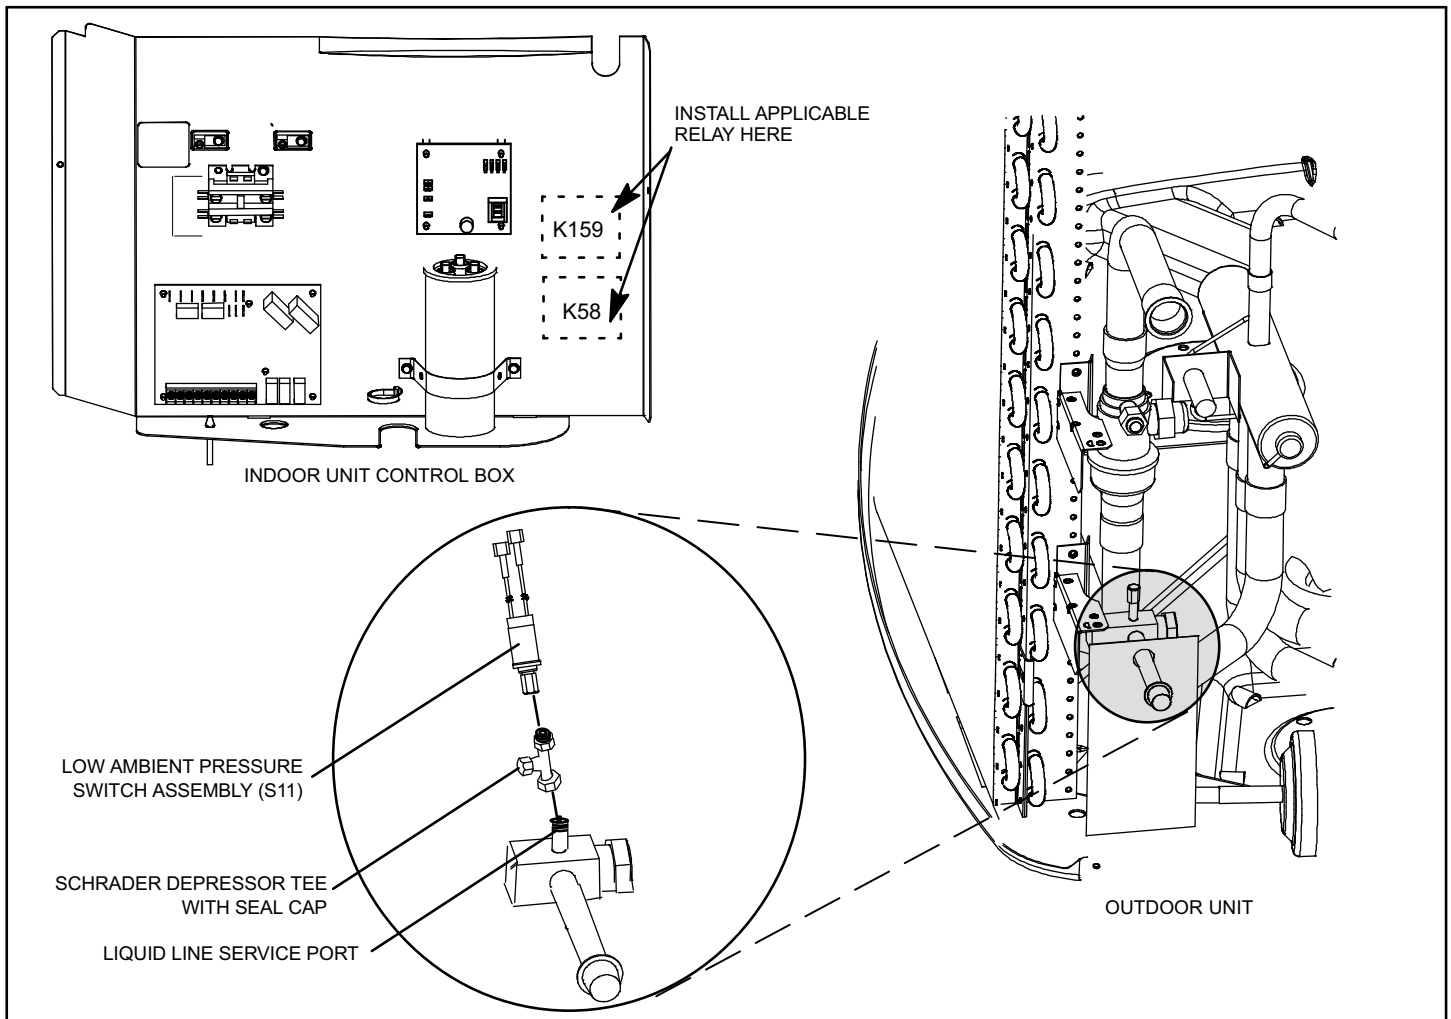

Figure 1.
- 3 - Install provided low ambient pressure switch on open port (no valve core) of provided tee fitting (see figure 1 for example).
Depending on the specific model unit, one of the provided relays will be used (see figure 1 for relay(s) installation location).